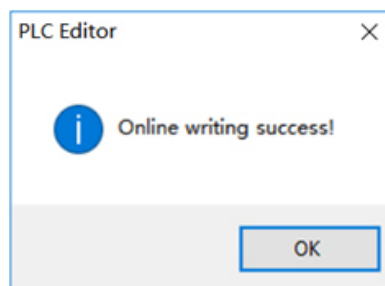

Figure 6-4
- 3) Select [Monitor Edit (W)];
- 6) Click [Yes] button, when complete download, software pop-up window as Figure 6-4 shows;